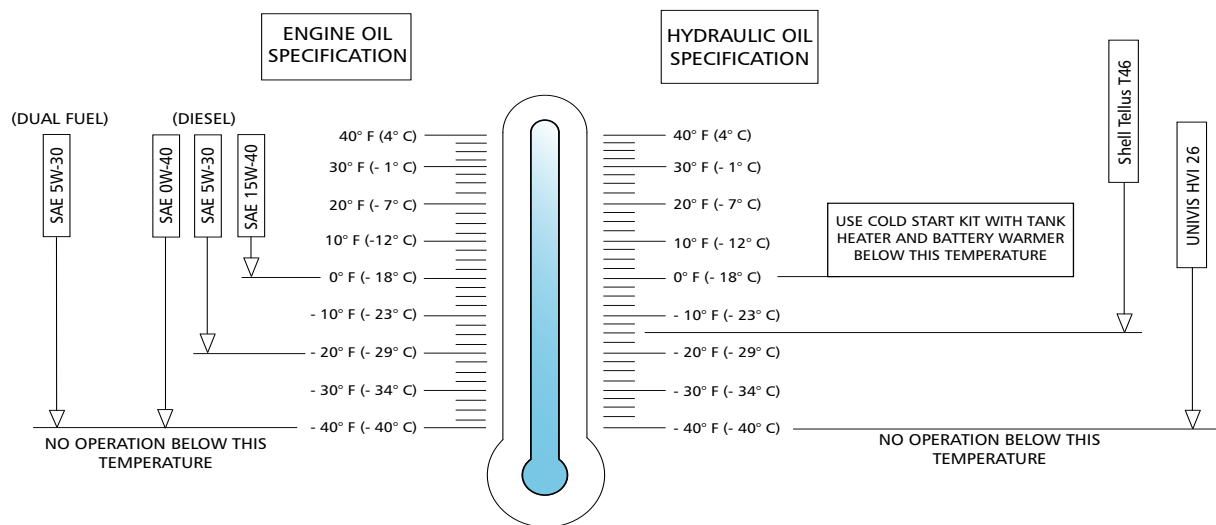

Figure 3-11. Cold Weather Operation Chart
- Refer to the cold weather operation chart (Figure 3-11) to assist in operating the aerial platform in cold weather conditions.